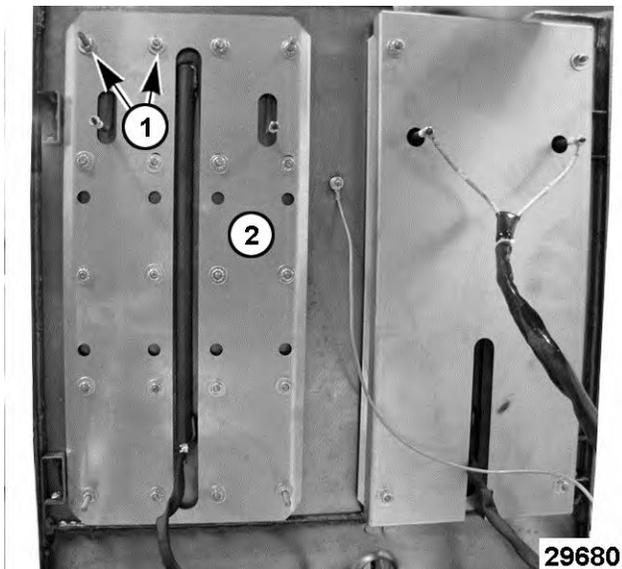

Fig. 22
6. Remove mounting nuts (1, Fig. 22) securing the griddle element clamp (2, Fig. 22).
7. Remove griddle element clamp (2, Fig. 22) from the element and griddle plate.